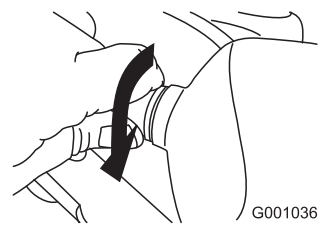

Figure 55
5. Turn the base of the bulb clockwise until it is snug (Figure 55).